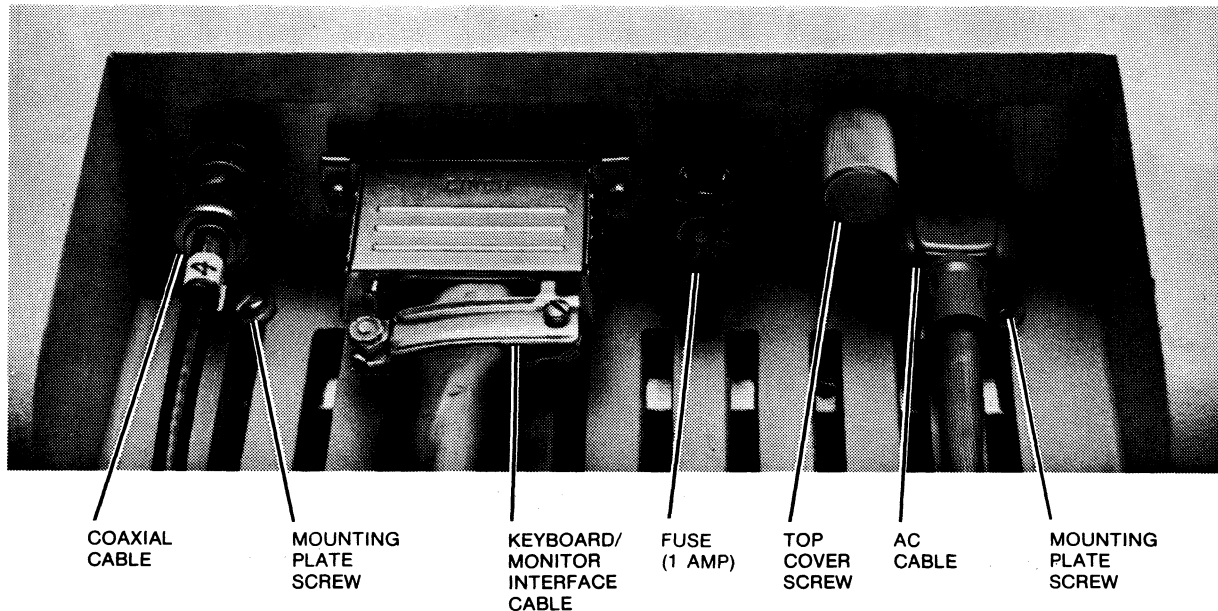

FIGURE 4-1. MONITOR CONNECTOR PANEL
1. Disconnect the external AC, coaxial, and keyboard/monitor interface cables from the back of the monitor (Figure 4-1).
2. Remove the external fuse shown in Figure 4-1.
3. Loosen the top cover screw (Figure 4-1).
11. Remove the connector cable mounting plate screws (Figure 4-1).